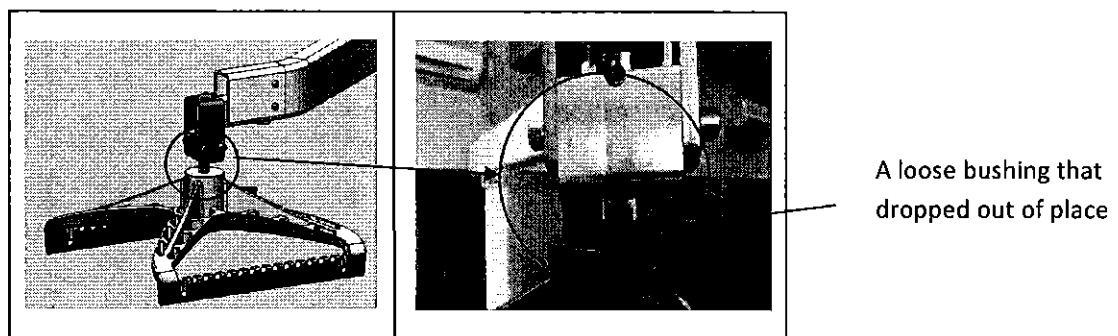

Figure 4.3: (left) the location of the bushing, (right) a bushing that dropped out of its place
4.4 Check whether the bushing is visible. Use figures 4.3 and 4.4 for better understanding of where a loosed bushing may be.